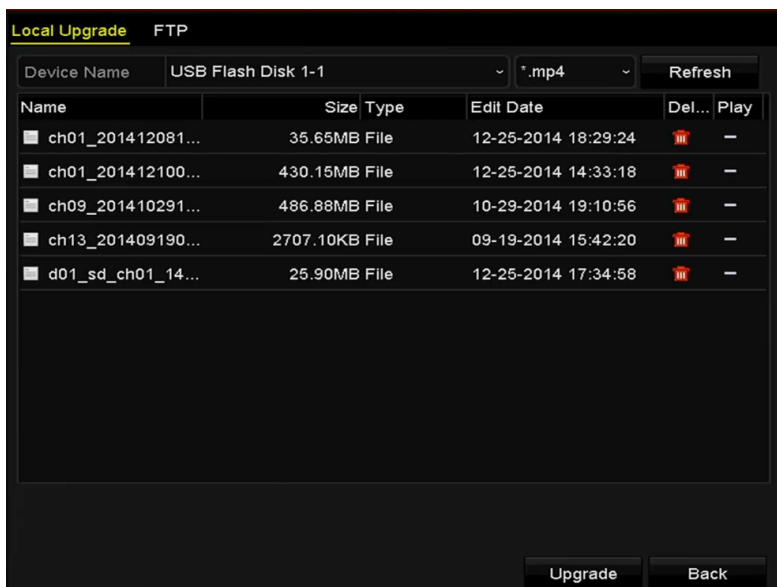

Figure 14-7 Local Upgrade Interface
Step 3 Click the **Local Upgrade** tab to enter the local upgrade menu, as shown in Figure 14-7.